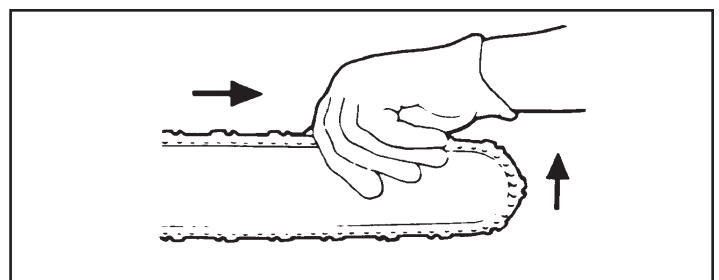

Figure 9. Pulling the Chain
3. Using the saw bar adjustment screw (Item 68, Parts Illustration), tighten the chain until you are still able to rotate it one full revolution by hand (Figure 9).